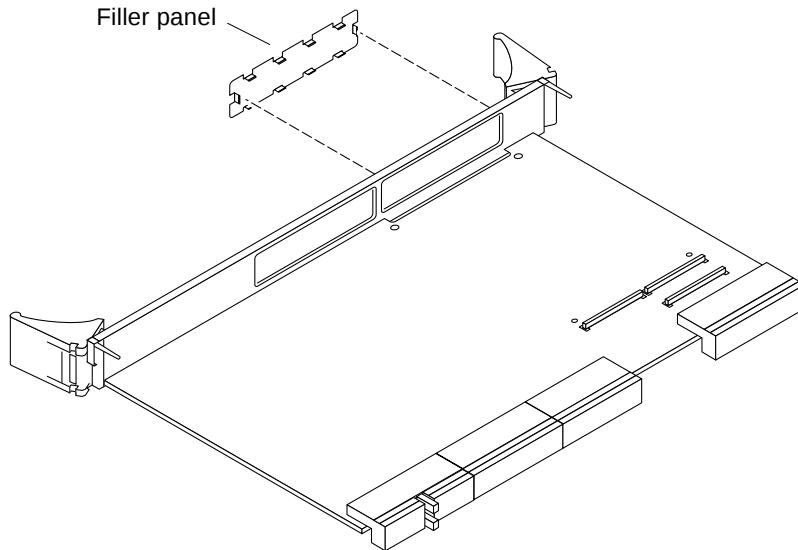

FIGURE 2-4 Removing the PMC Filler Panel
4. **If the PMC has a connector for cabling, remove the Netra CP2300 board's filler panel (FIGURE 2-4).**